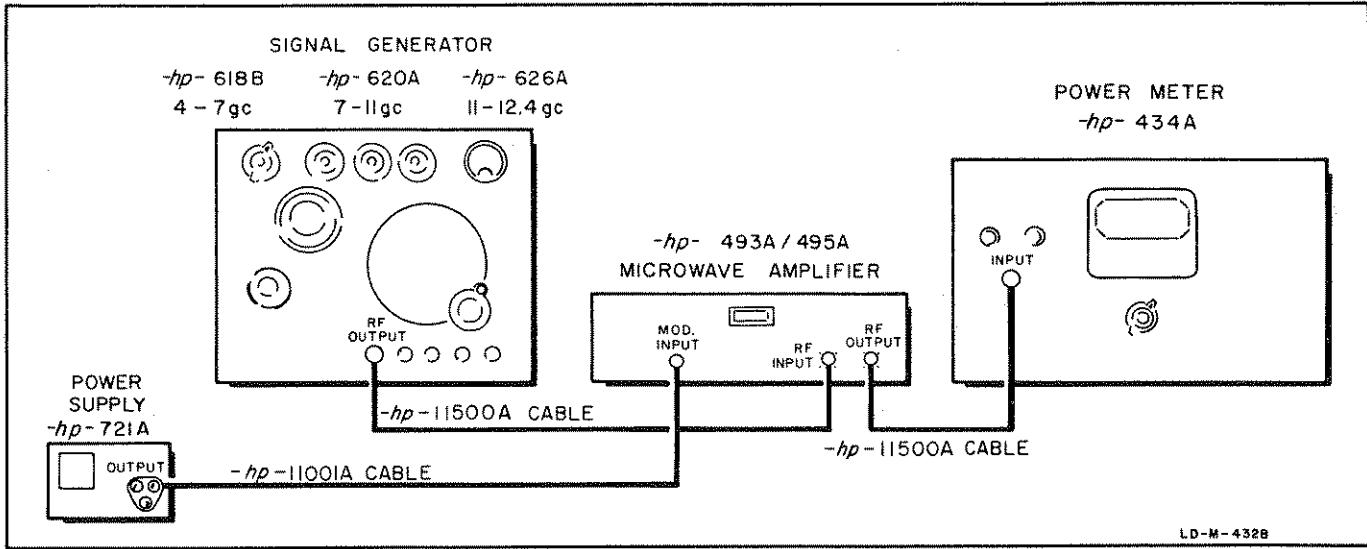

Figure 5-8. Modulator On-Off Ratio
a. Set up the Model 493A as shown in figure 5-8 (power supply power off). Signal generator set up for a 1 mw output at microwave amplifier low power point.
- Connect the Model 493A as shown in figure 5-8, with the signal generator and the power meter at the same setting as those in paragraph 5-36 steps c and d.